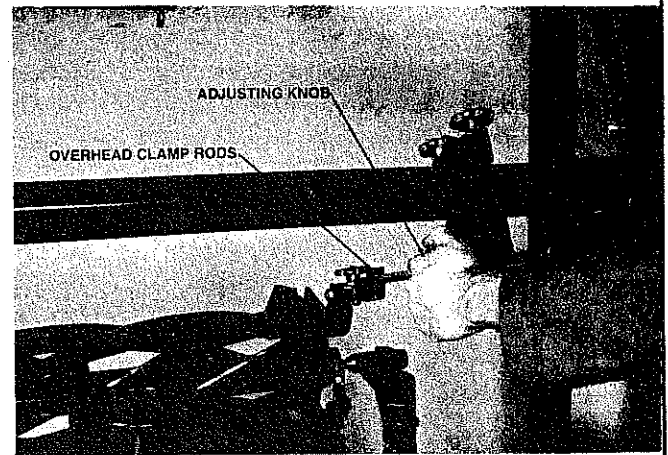

FIG. 64
- B. Make sure overhead clamping rods are loose in their adjustment fixture so that the reel is free to move forward and backwards. (See FIG. 64)